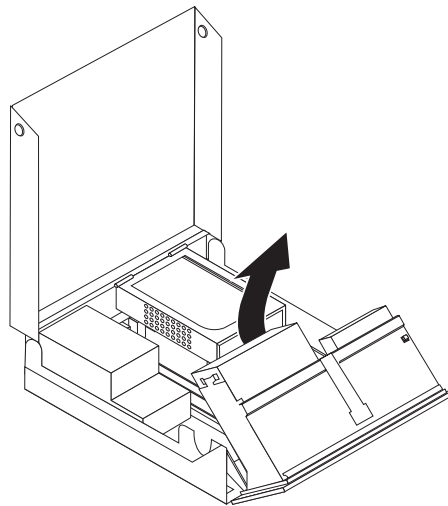

Figure 20. Accessing the heat sink
2. Pivot the drive-bay assembly upward to gain access to the heat sink. See Figure 20.